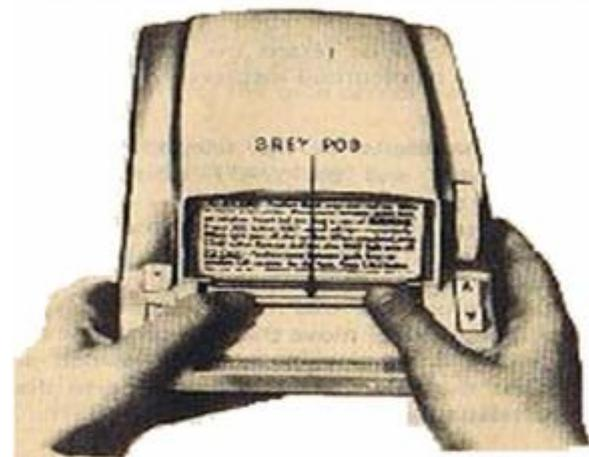

Figure 3. Removing Tape Cartridge.
3.09 It is necessary to remove the tape cartridge for typewriter entries (Figure 3). This is accomplished by lifting the front cover, raising the front end of the basic dialer unit, and pressing back and down on the thin gray rod that rests on the top of the tape. The tape cartridge falls out of the bottom of the basic dialer unit when the rod is pressed.